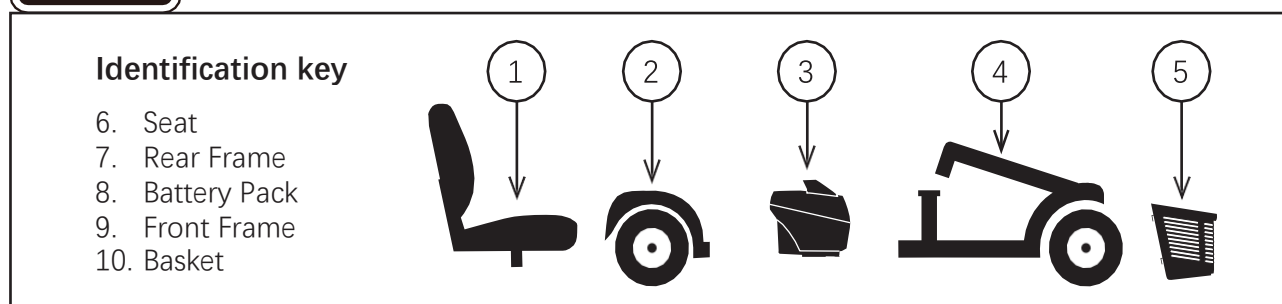

Figure 7. Disassembled Scooter
4. With the seat and battery pack removed (see Disassembly Procedures on previous page) Figure 7 Disassembled Scooter